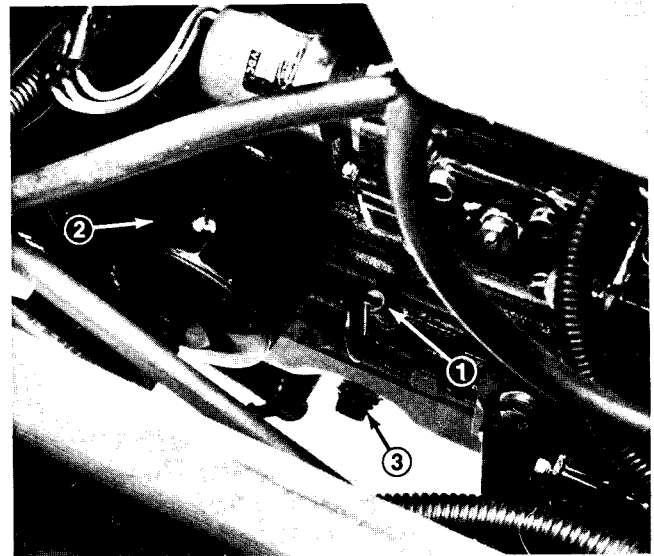

Figure 14
3. Remove the dipstick and wipe it with a clean rag. Put the dipstick into the tube and make sure it is seated fully. Remove the dipstick and check the oil level (Fig. 14). If the oil level is low, add enough oil to raise the level to the FULL (upper) mark on the dipstick.